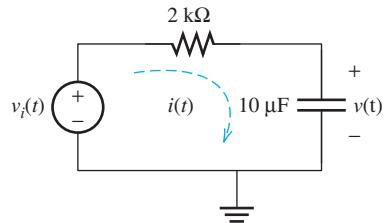

FIGURE P5.56 Circuit for Problem 5.56.
- 5.56** (H)* Find $i(t)$ and $v(t)$ in the circuit shown in Figure P5.56 assuming the input voltage